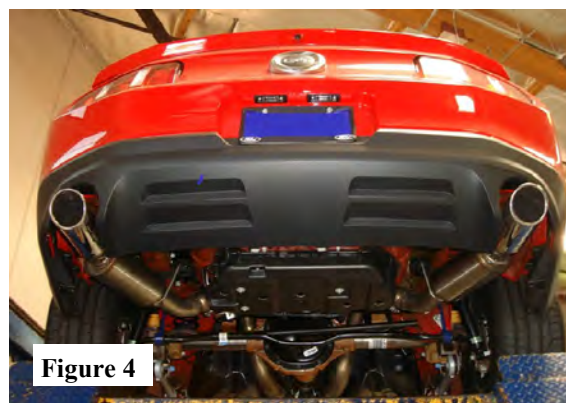

Figure 4
3. Check your exhaust system for proper clearance under the vehicle and also for tip alignment. (See Figs. 4)